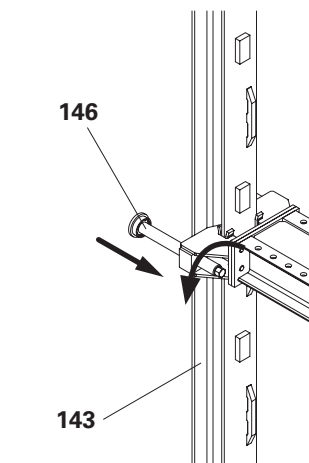

Fig. D2.03
1. Retract the Pressure Point Spindle M42 ACS (**146**). (Fig. D2.03)